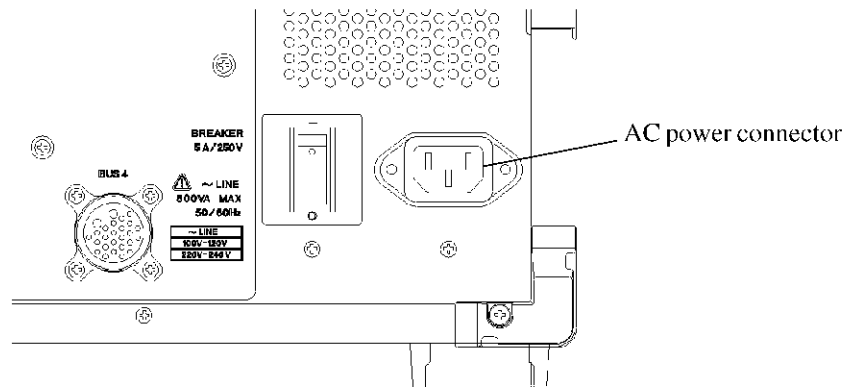

Figure 3-10 Connecting the Power Cable
2. Plug one end of the power cable included with this instrument into the AC power connector on this instrument rear panel and the other into a three-pole power outlet having a protecting grounding terminal (see Figure 3-10).